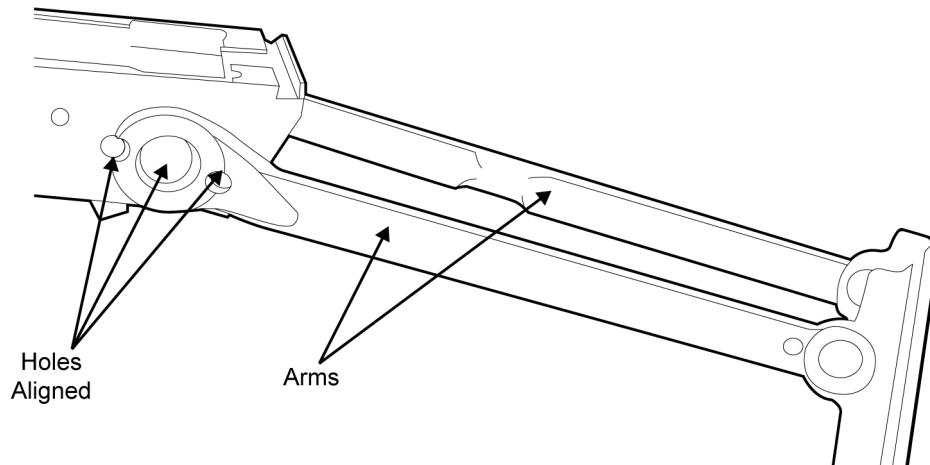

Figure 44. Buttstock Arms Installed with Holes Aligned.
a. Install the folding buttstock arms on the end of the receiver in the extended position, aligning the holes in the arms of the buttstock with the holes in the sides of the rear of the receiver. Ensure that the long end of the shoulder rest is pointing down. Refer to Figure 44.